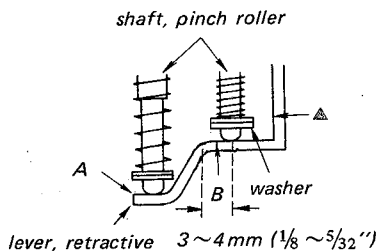

Fig. 8-8 Pinch roller stroke adjustment
- (1) Remove the head deck by removing the four screws marked with  $\blacktriangle$  on page 55.
- (2) Adjust the screw ① so that the pinch roller shaft comes in contact with the retractive lever at the position (A) shown in Fig. 8-8, in STOP mode.
- (4) Put the dummy capstan \* into the capstan bearing and be sure that the pinch roller shaft moves by approx. 3 ~ 4 mm ( $\frac{1}{8}$  ~  $\frac{5}{32}$ " ) on the surface of the retractive lever when the function selector knob is changed from STOP to FWD.
- (5) Be sure that the washer for the pinch roller shaft does not come in contact with the part indicated with ▲ on the retractive lever shown in Fig. 8-8 when the function selector knob is changed slowly from FWD to FF.
- (6) After the adjustment, apply lock paint to the screw.